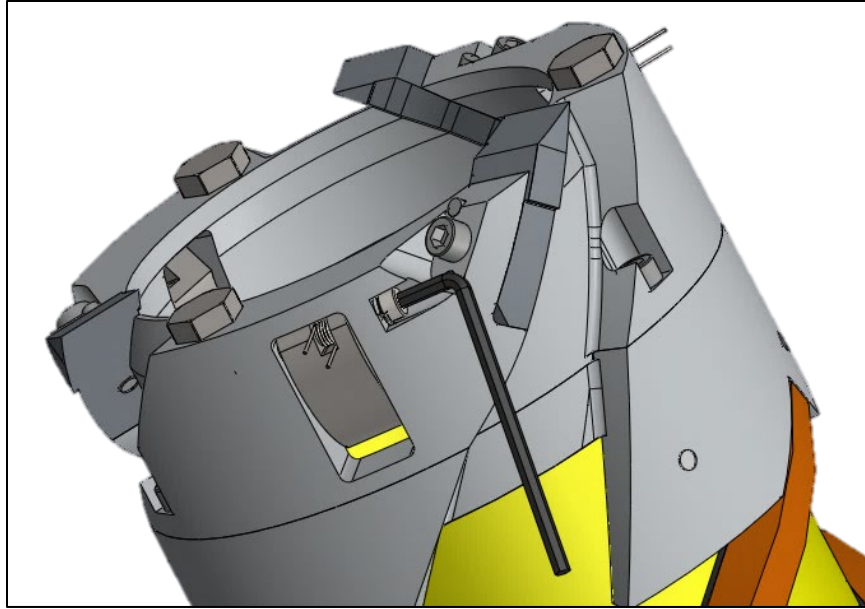

Figure 8: Removing the Core Dogs
7.3.2 Installing core dogs (Figure 8):
7.3.2.2 Insert the core dog into the core dog window such that its concave surface is facing towards a theoretical core (Figure 8, left highlight) (Figure 8, center highlight). Then slide the screw part way into the core dog through the first leg.